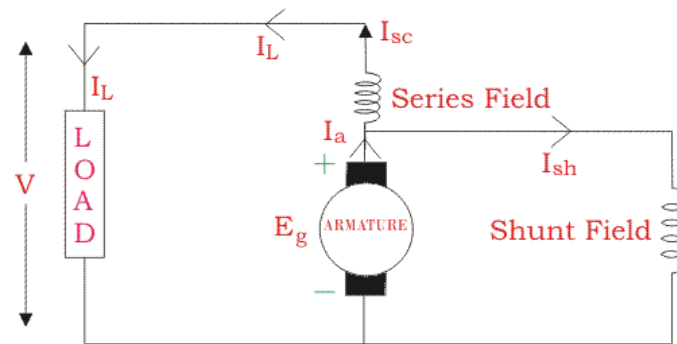

Figure.1.17. Short shunt DC generator – Compound wound.
1.6.3.3.1. Short Shunt Compound Wound DC Generator. Short Shunt Compound Wound DC Generators are generators where only the shunt field winding is in parallel with the armature winding, as shown in the figure 1.17.